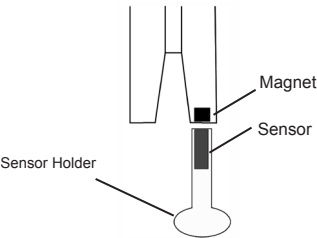

Fig 6
**Sensor Position:** The AutoAnchor sensor may be fitted using a sensor holder fixed to the deck to sit under the chainwheel (See Fig 6). The AutoAnchor sensor holder (#9070) is not included in the standard kit. Check with your supplier if you need this. The AA black sensor and the reed switch sensor must be fitted directly in line with the magnet in the chainwheel. The AA grey sensor may be fitted up to 20mm out of alignment. The gap between the sensor and magnet must be as per the table below.